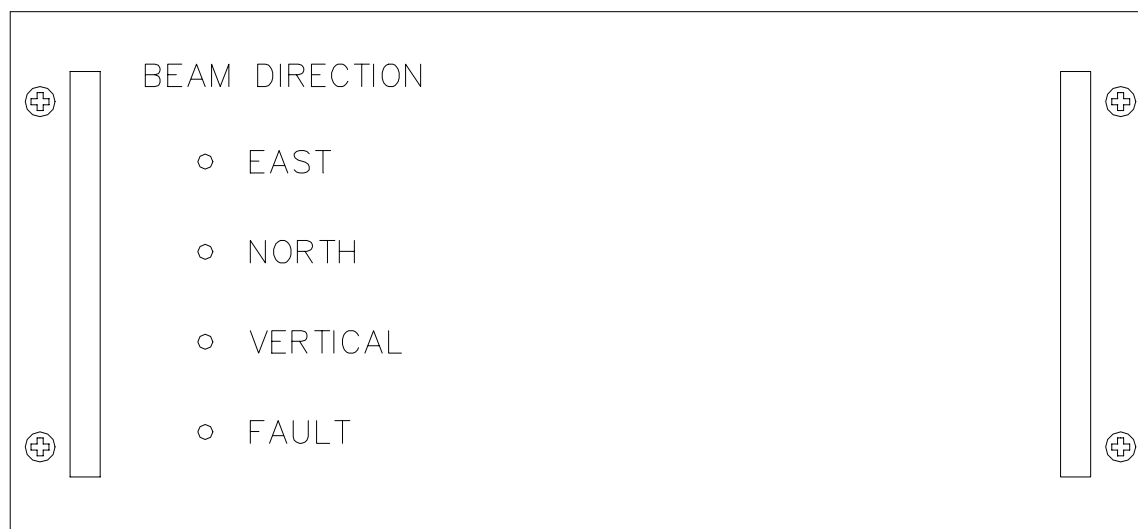
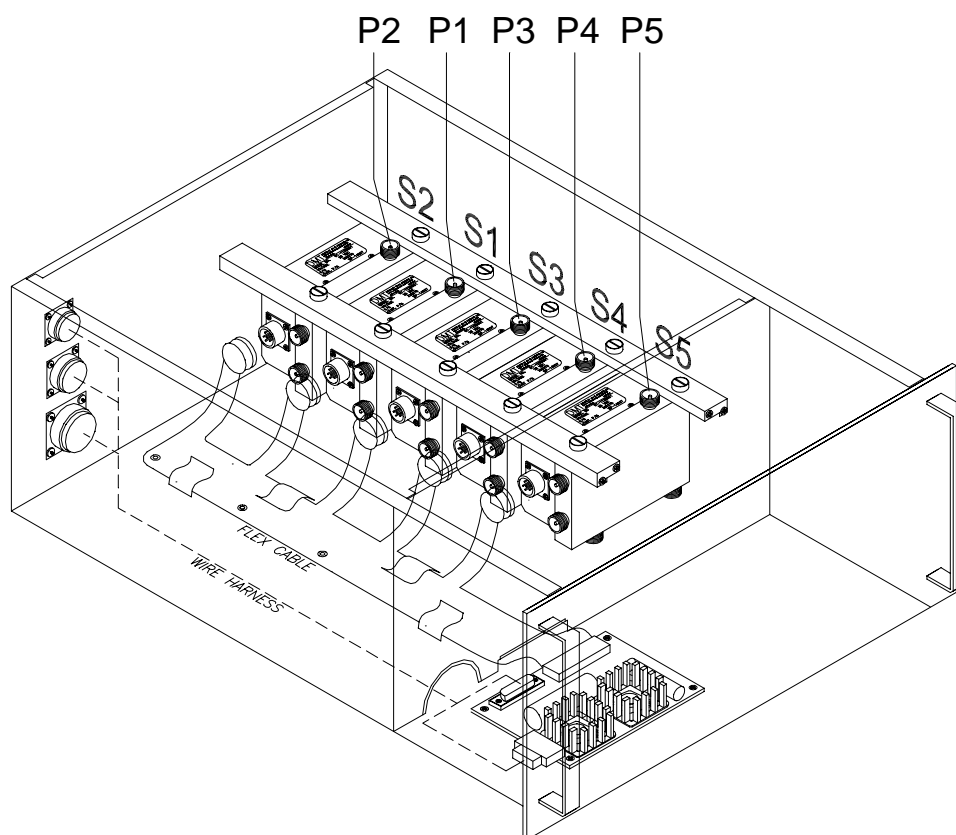

Figure 5-22 Type 2 BSU Switch Assembly Front Panel
Figure 5-23 Type 2 BSU Switch Assembly Internal Component Layout
5. Unscrew the type "N" connector on each of the five Power Distribution Cables and remove that end of the cable from a BSU Switch (see Figure 5-23).
The BSU accepts beam position commands from the Signal Processor, selects the Upper Antenna Sub-Array (for the East beam) or the Lower Antenna Sub-Array (for the North and Vertical beams), and routes RF energy through the Phase Delay Cables (for the Vertical beam) during the transmission cycle. Figure 5-2 identifies the location of the BSU Switch Assembly in the BSU Cabinet. Figure 5-22 shows the BSU front panel *BEAM DIRECTION* indicators and switch *FAULT LOCATION* indicators. Figure 5-23 illustrates the internal component layout of the BSU Switch Assembly.
10. Reconnect the five Power Distribution Cables to the BSU Switches as shown in Figure 5-23.